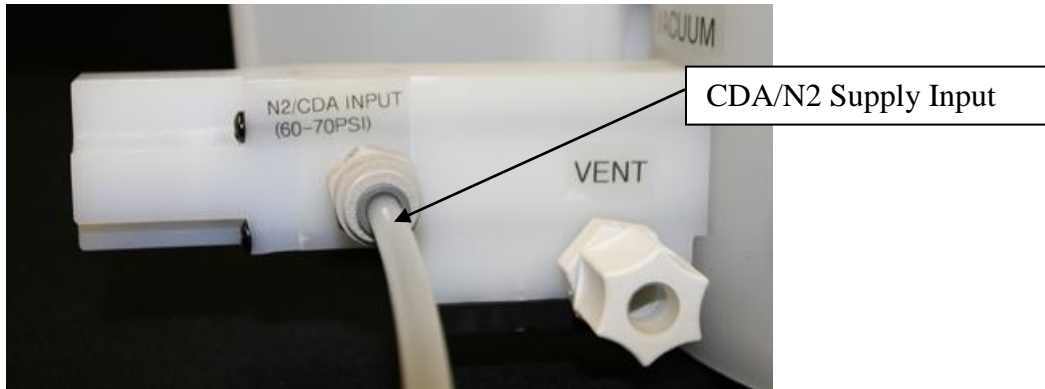

Figure 3
2. Connect the output side of the regulator, using the provided 1/4" tubing, to the CDA or N2 input on the vacuum transducer box. See figure 3